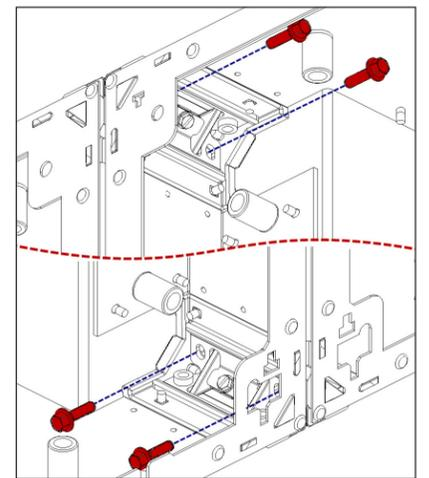

Figure 9: Install Bolt through Precision Block
2. Install 1/4" bolts horizontally through all of the precision blocks in one cabinet and into the adjacent cabinet's corresponding precision block's nutsert (four per side). Refer to **Figure 9**. Finger-tighten the bolts.